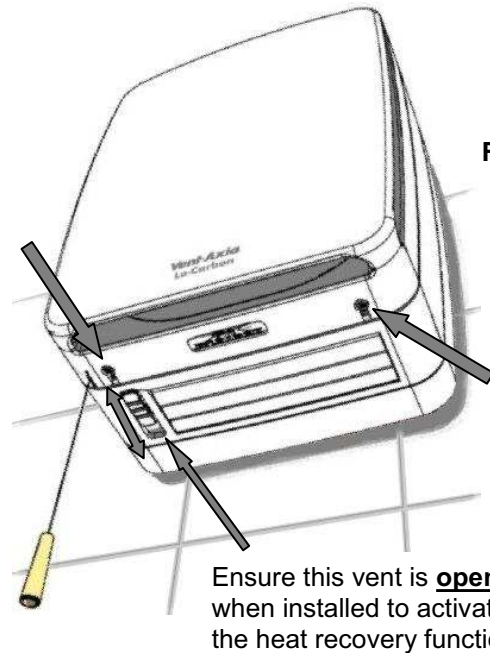

Fig.16
14) The Tempra unit is also fitted with a “manual summer setting” which allows the unit to be set to extract only, helping to prevent a dwelling becoming too warm in hot summer conditions. When first installed this shutter/vent should be **open**. Fig.16 To activate the summer setting it should be shut.